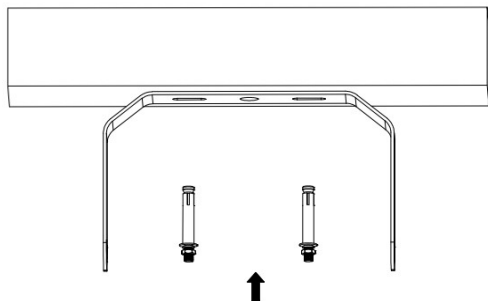
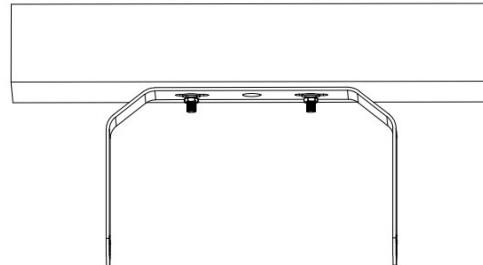

FIG.20
FIG.21
- 2) Align U shape bracket to the drilled holes on the ceiling, use expansion screws, fix the bracket onto the ceiling. (See FIG.20 and FIG.21)